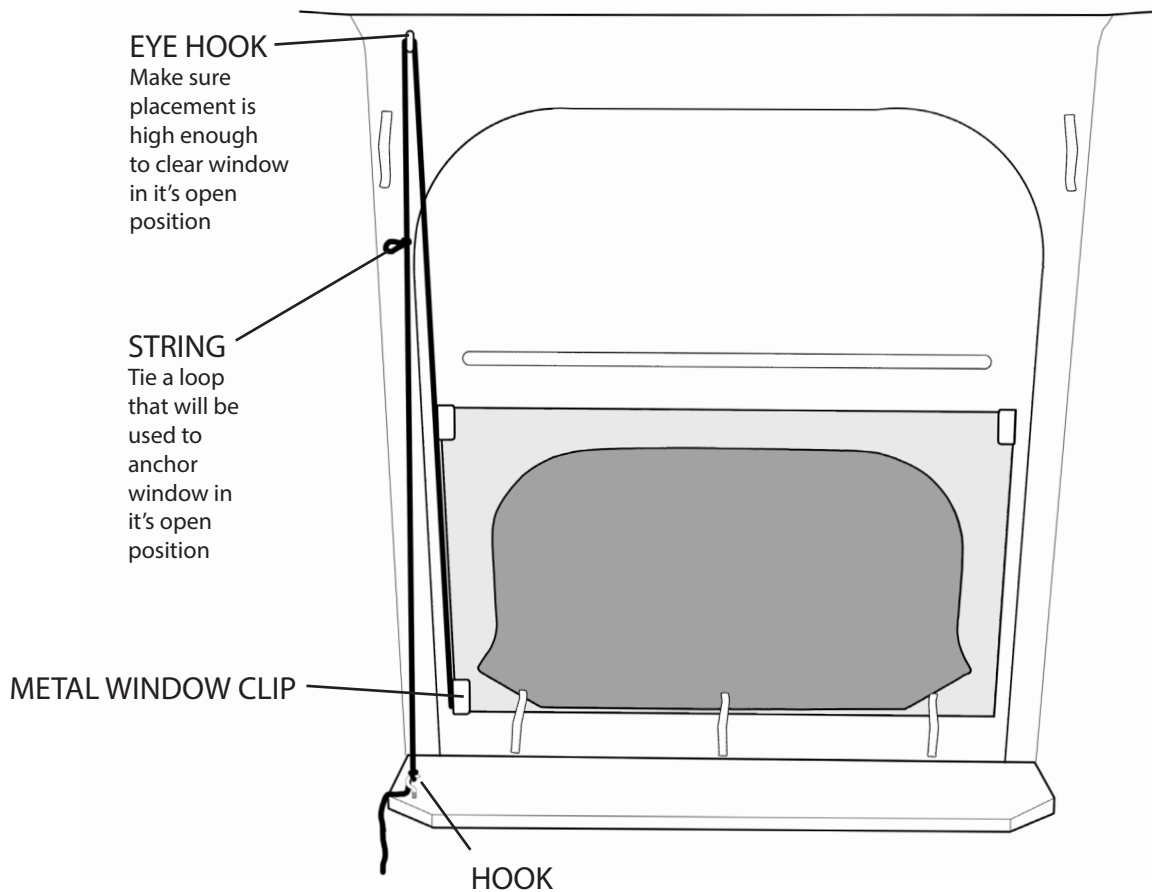

Figure 12.1
STEP 3: Drill a 1/16" pilot hole into the shelf at a predetermined location of your choice, then srew the HOOK onto the shelf. Feed the STRING coming from the METAL WINDOW CLIP through the EYE HOOK and down to the HOOK. Tie a loop in the STRING that will be used to anchor the Window in it's open position. The installation of your Window Assist should now be complete, and resemble the illustration in Figure 12.1.